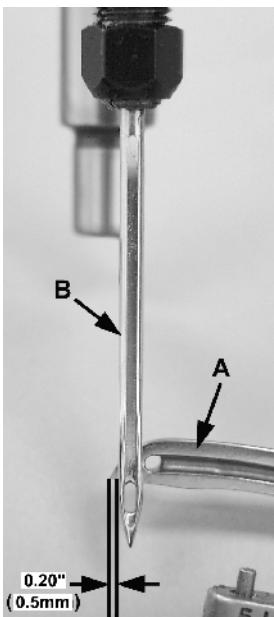
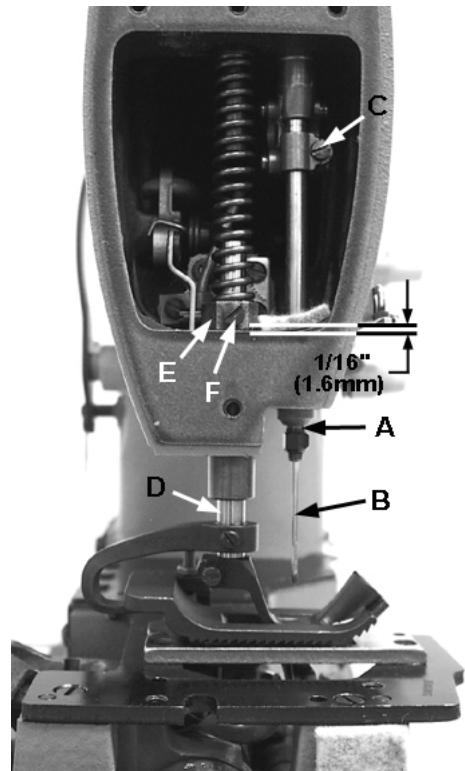

Fig 8
Fig 15
Turn handwheel to position point of looper (A, Fig. 8) 0.20" (0.5mm) past the left side of needle (B). At this time the top of the eye of the needle (B) should be even with the under side of the looper (A). To make adjustment, loosen screw (C Fig. 15) and move needle bar (A) up or down as required.
Height of presser bar (D, Fig. 15) is set correctly if it is possible to remove the presser foot when the foot lifter lever, located at the back of the machine and extending above the upper crank chamber cover is fully actuated (pulled to the right). There should be approximately $1/16$ inch (1.6mm) clearance between lower surface of the presser bar connection and guide (E) and bottom surface of head opening in the bed when foot lifter lever is released and presser foot lying flat on the throat plate with feed dog below throat plate.